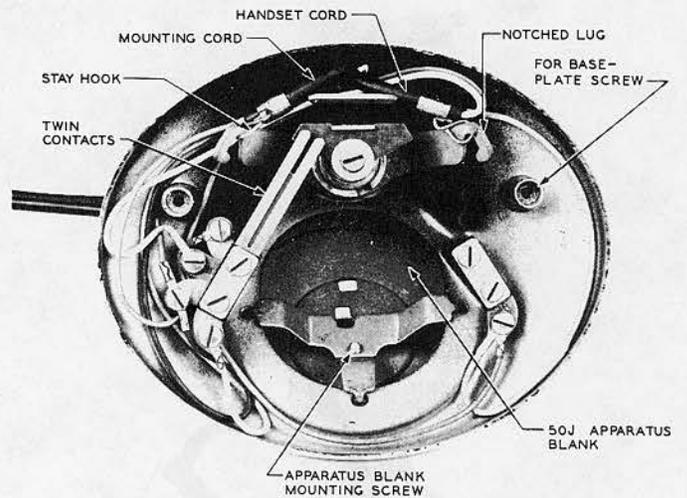

Fig. 8 - Assembly of D-type Handset Mounting (Manual)
6.01 The D-type handset mounting is normally used with types 202, 203, 206, 207, and 215 hand telephone sets (see Fig. 8 and 9).